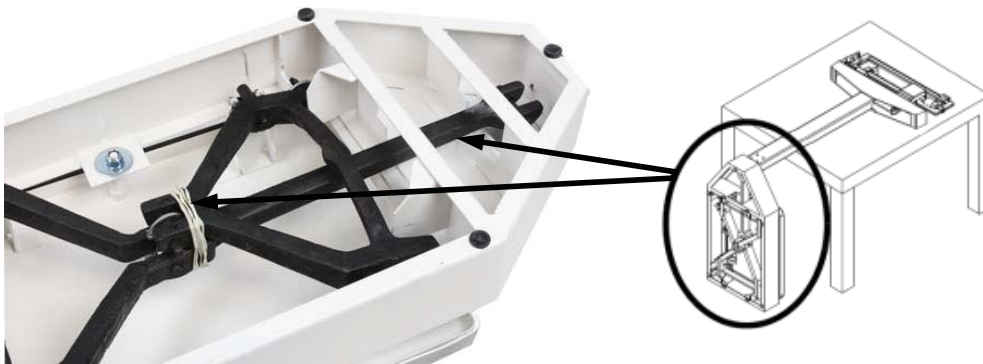

Figure 4. - Lay scale on a table to access the bottom of scale base
5. Lay the scale on a table. Remove and discard the shipping tie-wrap wires on the underside of the scale base as shown in Figure 4.